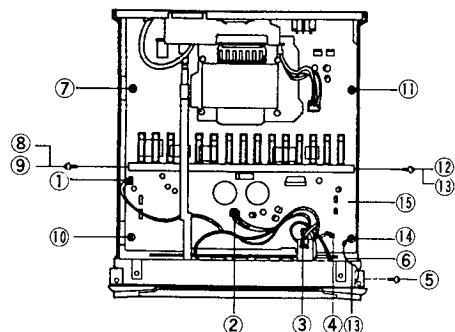

Fig. 5
1. Remove the pcb-2 (Refer to step ④)
2. Remove connectors ① to ④ in Fig. 5
3. Remove screws ⑤, and then untie the ground wire ⑥ in Fig. 5
4. Remove screws ⑦ to ⑬, and then remove the main pcb-⑯
⑥ Front Panel Assembly Removal